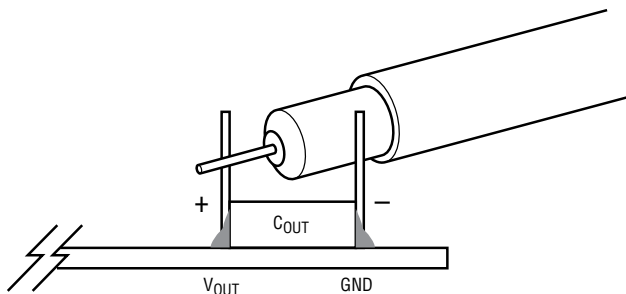

Figure 2. Scope Probe Placement for Measuring Input or Output Voltage Ripples
5. Once the input and output voltages are properly established, adjust the load current within the operating range of 0A to 1.25A max per channel. Observe the output voltage regulation, output voltage ripples, switching node waveform, load transient response and other parameters. Note: To measure the input/output voltage ripples properly, do not use the long ground lead on the oscilloscope probe. Refer to Figure 2 for proper input and output voltage ripple measurement.